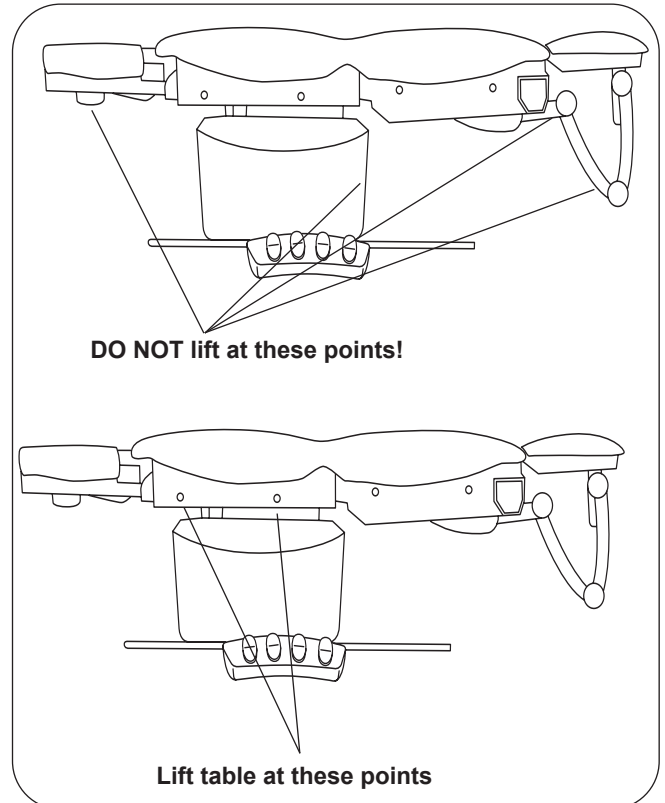

Figure 3. Table Lift Points
2. Remove the table from the shipping skid by sliding it off the front of the skid. Be sure to lift at the correct points as indicated in Figure 3. Position the table in the desired room location.